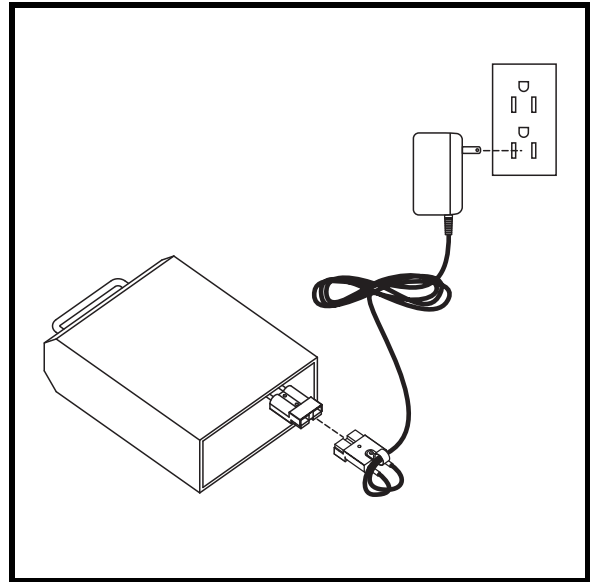

Figure 9. Battery Charging
2. Plug the charger cord into the socket located on the bottom of the battery, then connect the charger cord to a standard electrical outlet. See figure 9.